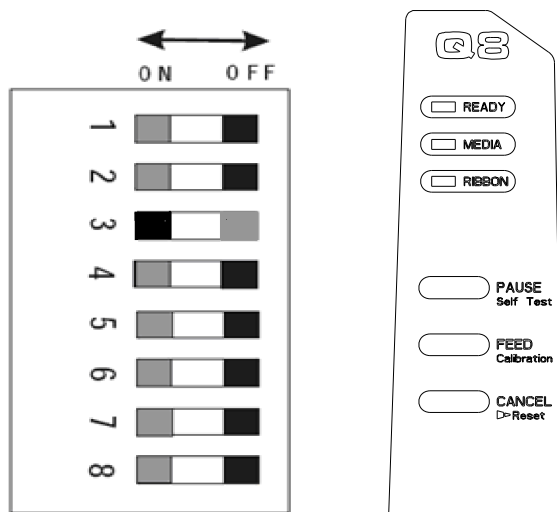

Figure 6-4
1. Set the 3rd DIP Switch to ON to enable the cutter function (see Figure 6-4).
3. Reset the Cutter: Press and hold the “Cancel” button for 4 seconds, the three lamps will blink simultaneously. Release and press the “Cancel” button again, the Cutter is ready to use (see Figure 6-4).